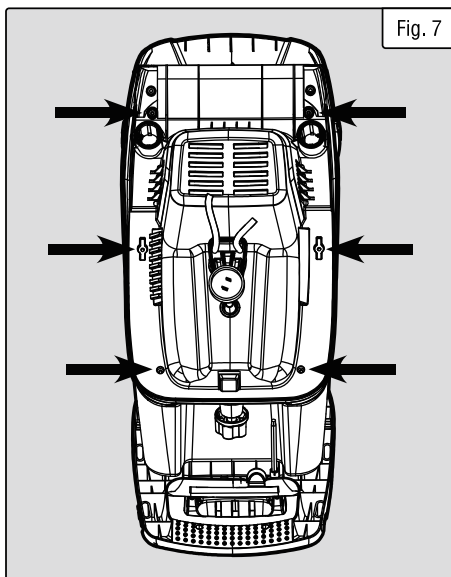

Fig. 7
3. Unscrew the six small screws on the bottom of the shredder housing (Fig. 7).